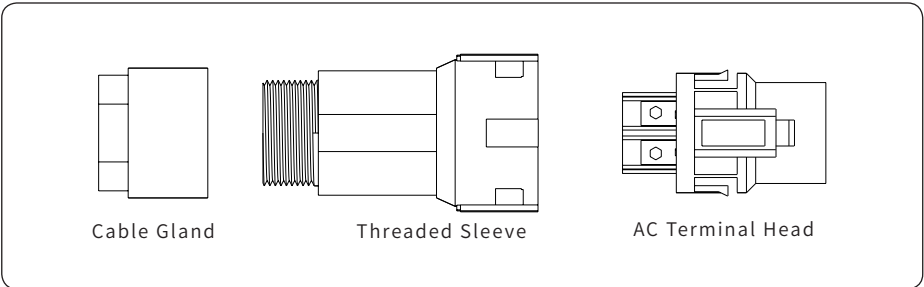

Figure 4-13
1) Take the AC connector out of the accessory bag and disassemble it, as shown in Figure 4-13: